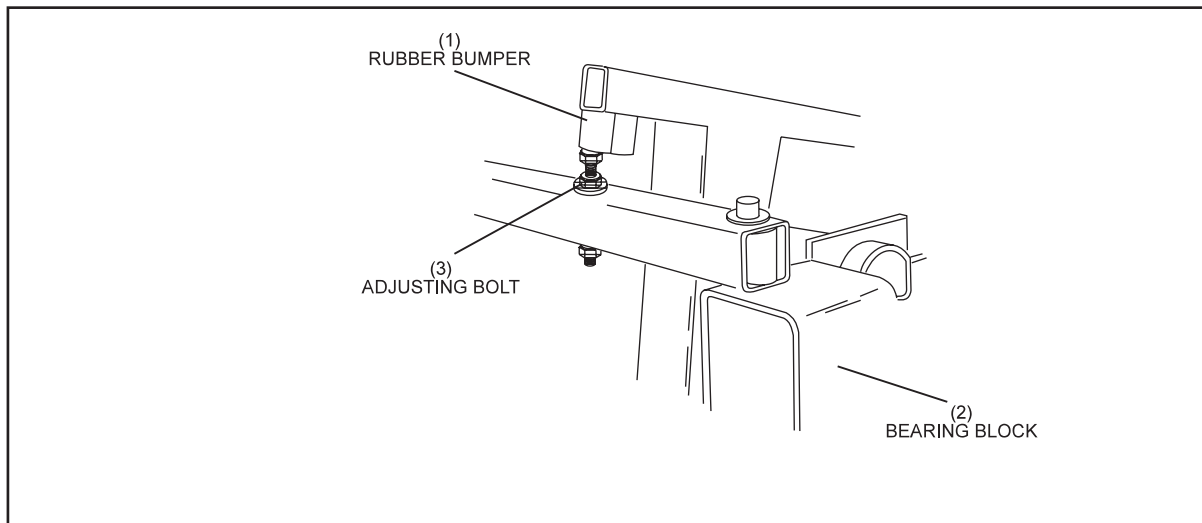
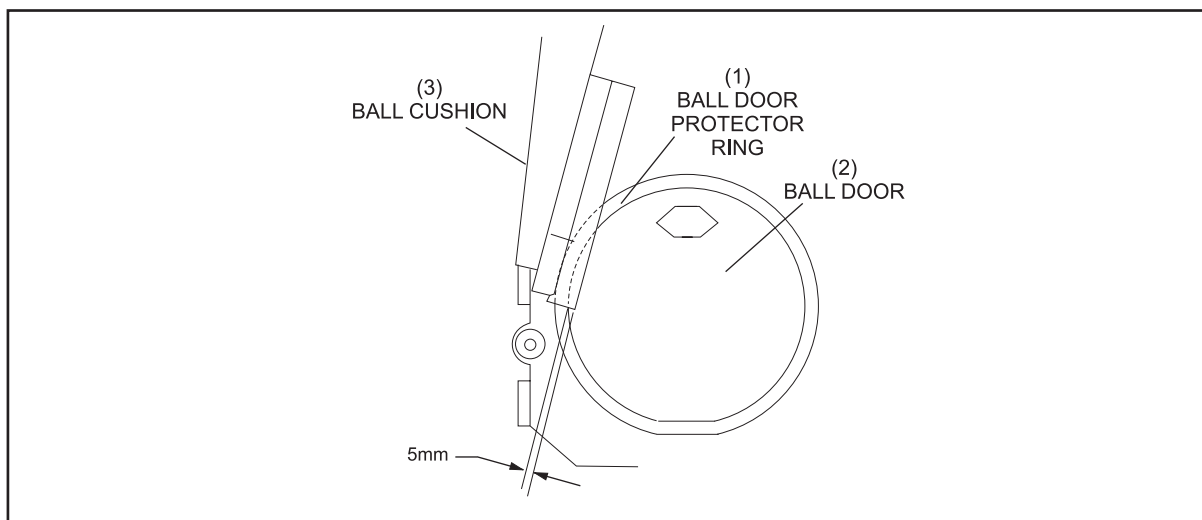

Figure 5-6. Ball Cushion Adjusting Bolt.
Figure 5-7. Ball Cushion Positioning.
1. Using the adjusting bolt shown in *Figure 5-6*, adjust the ball cushion so the front of the cushion is 5 mm in front of the ball protector ring. This will position the ball so it will enter through the ball door without touching the protector ring. Refer to *Figure 5-7*.